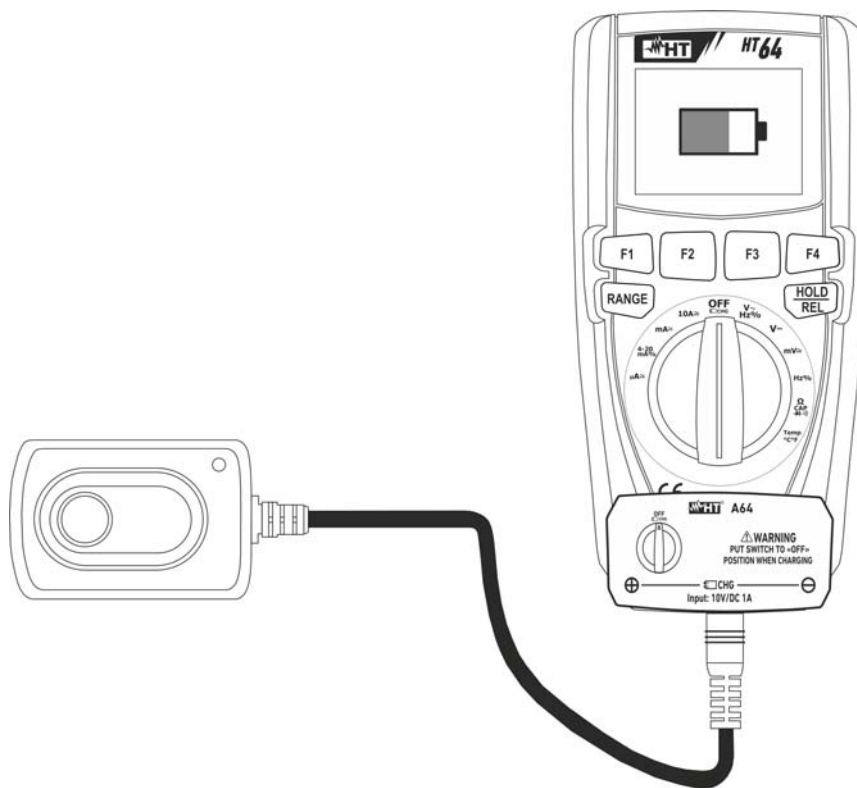

Fig. 31: Recharging the internal battery
2. Insert the interface of the battery charger power supply into the instrument, into the four input terminals (see Fig. 31).